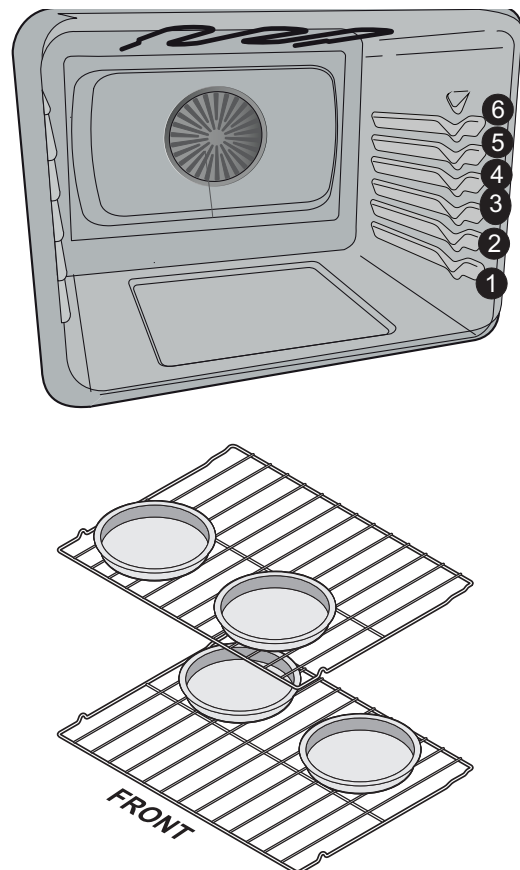

Figure 10: Rack positions and pan placement
- For best results when baking layer cakes using two oven racks, place racks in positions 1 (Flat) and 4 (Glide) and place pans as shown in Figure 10.